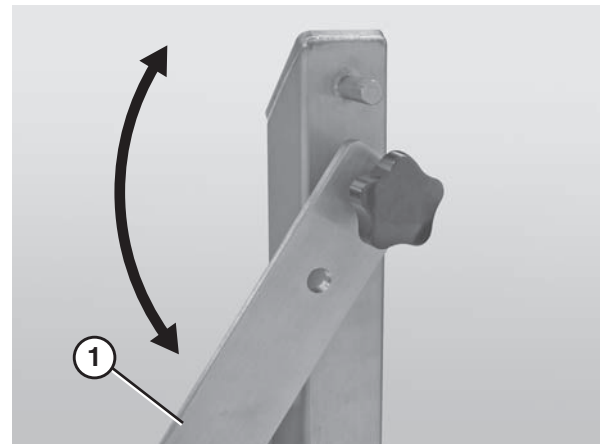

Figure 18
- Lower the quick release arm (**Figure 18, item 1**) on one of the stands. *Note: if the conveyor is not equipped with Quick Release (QR Type) stands, it will be necessary to remove the entire stand. For detailed instructions, refer to the “Sanitary Support Stands Installation, Maintenance and Parts Manual.”*